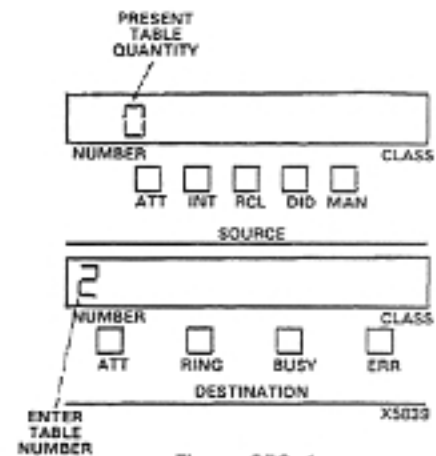

Figure 250-1
- (4B) Dial Table quantity digits (figure 250-1).